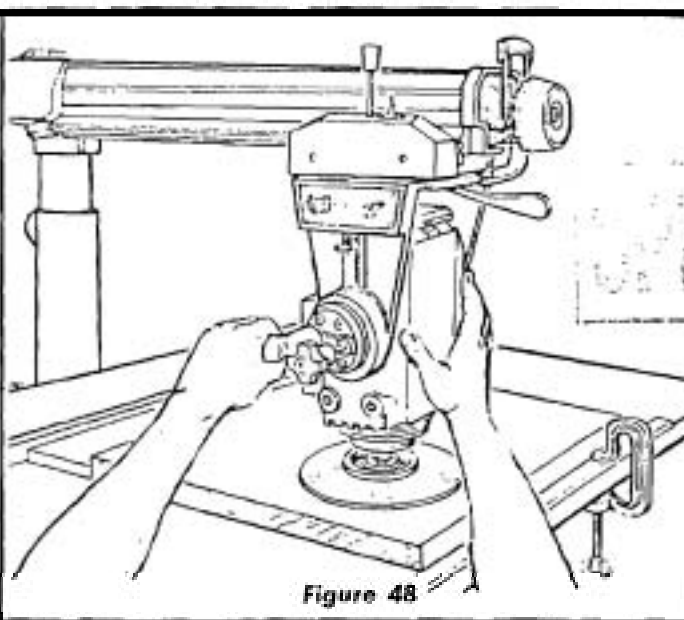

Figure 48
Using the 10-inch sanding disc mounted on the saw end of the motor, the saw can be converted into a sander and operated in any position. One loose collar should be used on each side of the sanding disc. (See figure 48.)
2. There is a possibility that after tacking a piece of plywood to the table top, the plywood surface may not be smooth or may be uneven. Lay a straightedge across the surface of the table and check for gaps or high spots on the table. Any portions of the table that are not flat may be sanded until flat. Sanding can be accomplished in the manner shown in figure 48.